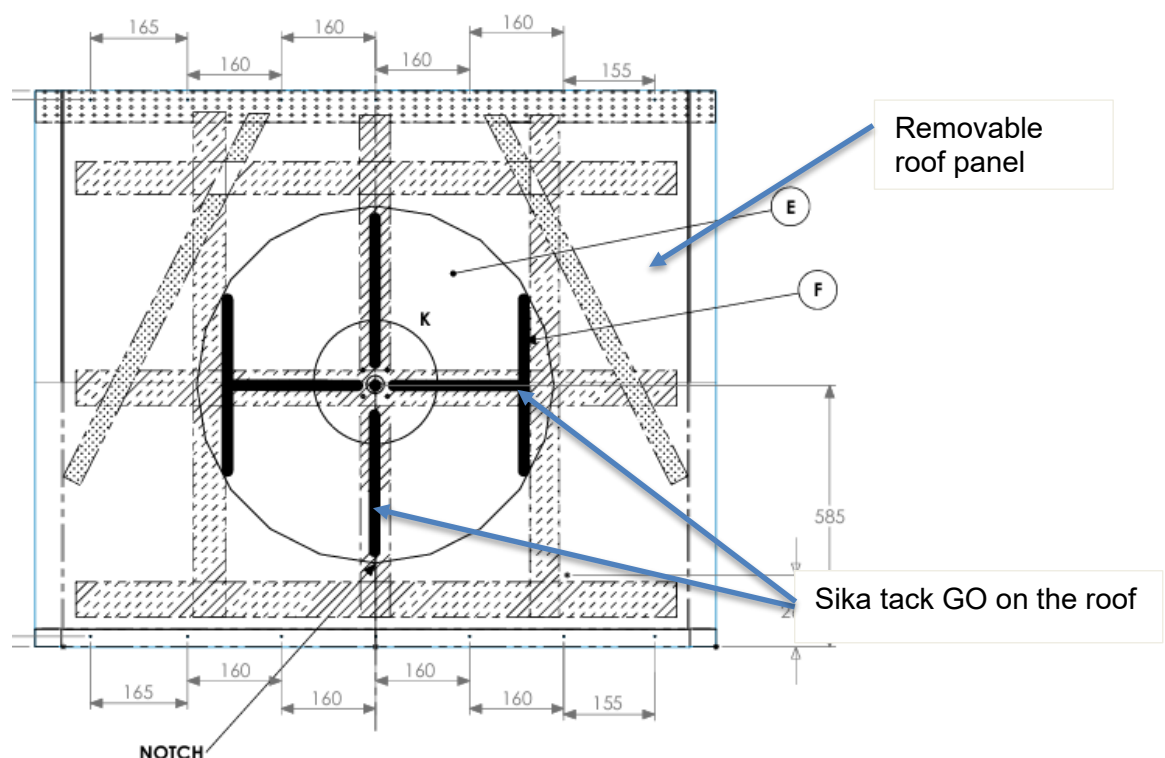

Figure 18: Sika tack GO applied on the removable roof.
- Step 11: Apply Sika Tack GO adhesive evenly to the marked area on the removable roof as shown in Figure 18. Maintain an adhesive thickness of approximate 3mm to 5mm of Sika tack GO.